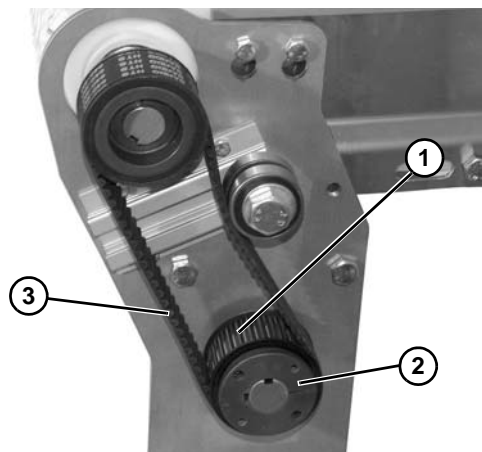

Figure 29
3. Remove pulley (Figure 29, item 1), taper hub assembly (Figure 29, item 2), and timing belt (Figure 29, item 3).